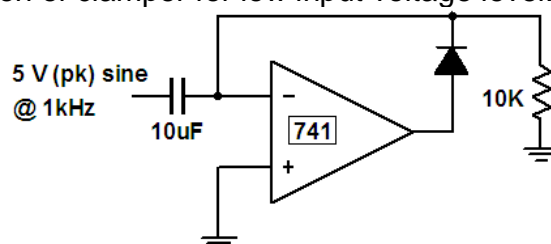

Fig 3:- Positive Clamper
Fig 3 is an active clamper. The first negative half cycle produces a positive op-amp output that turns on the diode. This allows the capacitor to charge to the peak value of input voltage. Just beyond the negative peak, the diode turns off, the loop opens, and the virtual ground is lost. Since  $V_P$  adds to a sinusoidal input voltage, the final output waveform is shifted positively through  $V_P$  volts.
1. Connect the circuit as shown in fig 3.